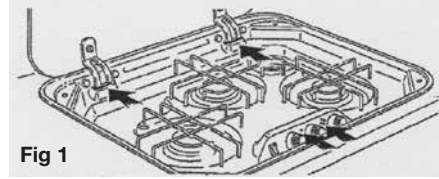

Fig 1
The slots indicated in fig.1 must be kept open.
1. Open access door pull retaining clip upwards (fig. 1).